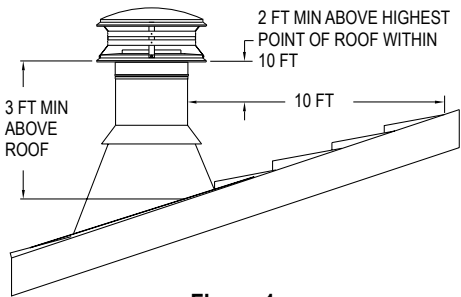
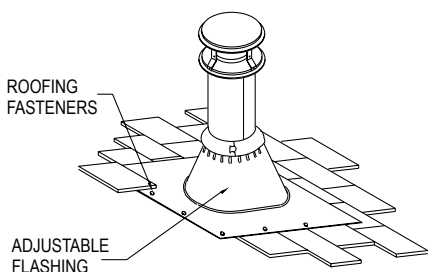

Figure 1
Figure 12
The National Fire Protection Association Standard #211 states: "Chimneys shall extend at least three feet above the highest point where it passes through the roof of a building, and at least two feet higher than any portion of a building within ten feet." (Fig 1) DuraTech Chimney may be installed up to 60 feet high. If the chimney extends more than 5 feet above
chimney above the roof. Allow space to permit sliding the next Chimney Section up through the Flashing. Always insure the chimney remains vertical (use a level), and that at least a 2-inch clearance around to combustible materials is maintained all around. Install the upper edge of the Flashing under the roofing. Nail to the roof along the upper edge and down each side with 1-inch roofing nails. Do not nail the lower edge of the Flashing (**Fig 12**). Seal top and upper sides of flashing with roofing compound or sealant. Be sure to follow local building practices, as needed. Seal all nail heads with a non-hardening waterproof sealant. On flat or tarred and graveled roofs, nail and seal the Flat Roof Flashing to the roof on all sides with roofing compound. Do not put screws through the Flashing into the Chimney Pipe.
10. Finish Top: Apply a high-temperature (500°F), non-hardening waterproof sealant around the chimney at the point where the Storm Collar will meet the chimney just above the Flashing. (**Figures 12 and 13**). Slide the Storm Collar down over the chimney to the top of the Flashing. Tighten and seal the Storm Collar against the sealant. After installing sufficient Chimney Sections to meet the height requirement (**Fig 1**), attach the Chimney Cap onto the top of the chimney by holding the collar of the cap and twist locking it clockwise onto the chimney. Do not hold upper portion of the cap and twist, as this may damage the cap. The Chimney Cap can be removed for chimney cleaning as described in the Chimney Maintenance section of the instructions. Use an Extended Roof Bracket if the chimney extends more than 5 feet above the roof.